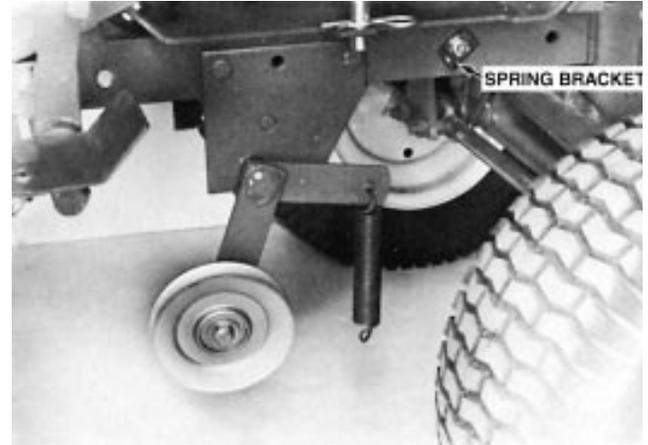

Figure 15
1. Insert the mid-mount idler shaft into the mid tractor hitch with the idler pulley on the right side of the tractor and lock the hitch (Fig. 15).
2. Secure the spring bracket to the tractor frame with a 3/8"–16 x 1" bolt and locknut (Fig. 15). Tighten the bolt so the spring bracket is still free to move.